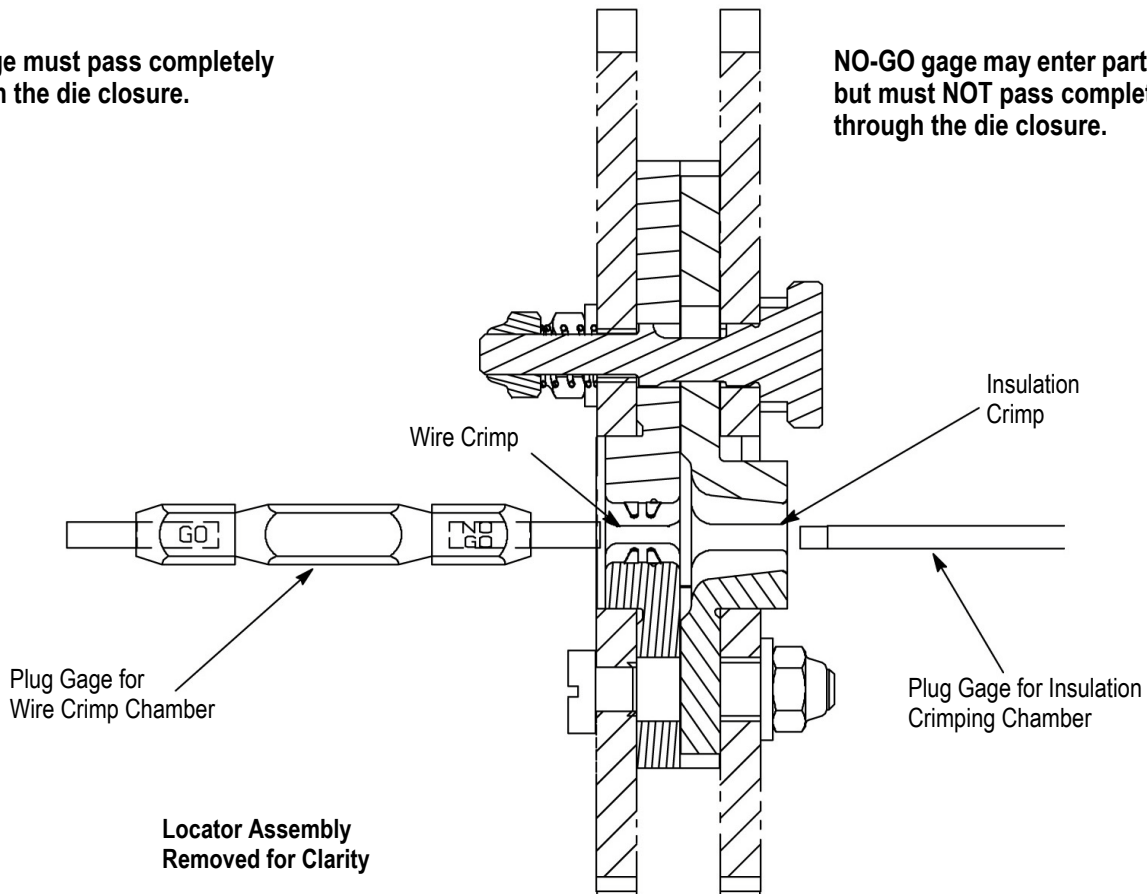

Figure 8
To gage the crimping area(s), refer to Figure 8 and proceed as follows:
3. With wire barrel dies bottomed, inspect the wire barrel crimping chamber using the proper plug gage. Lift the spring-loaded locator up and hold gage in straight alignment with the crimping chamber. Carefully try to insert, without forcing, the GO element. See Figure 8. The GO element must pass completely through the crimping area.
proper GO plug gages in the same manner as Steps 2 and 3. See Figure 8.
6. With the insulation adjustment indicator in Position 1, measure the insulation crimping chambers with the proper NO-GO plug gages. See Figure 8.